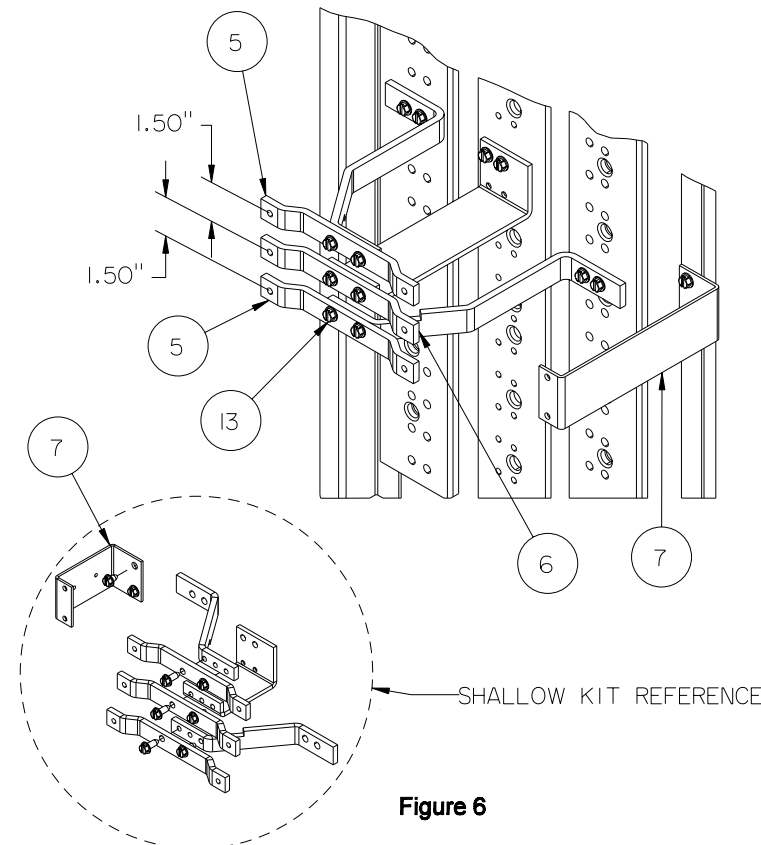

Figure 6
- Reference fig. 6 - Install the link bars (items 5 and 6). Insert two 1/4-20 X 5/8" screws (item 13) through the two 0.281" diameter holes in the B link bar (item 6) and into the two 0.228" diameter holes in the B  $\phi$  strap and tighten. Repeat this step to mount the two A/C link bars (item 5) to the A  $\phi$  and C  $\phi$  straps, orienting the link bars as shown so as to have 1.50" vertically between centers of the bars. Torque all screws as specified on the rear of the dead front.